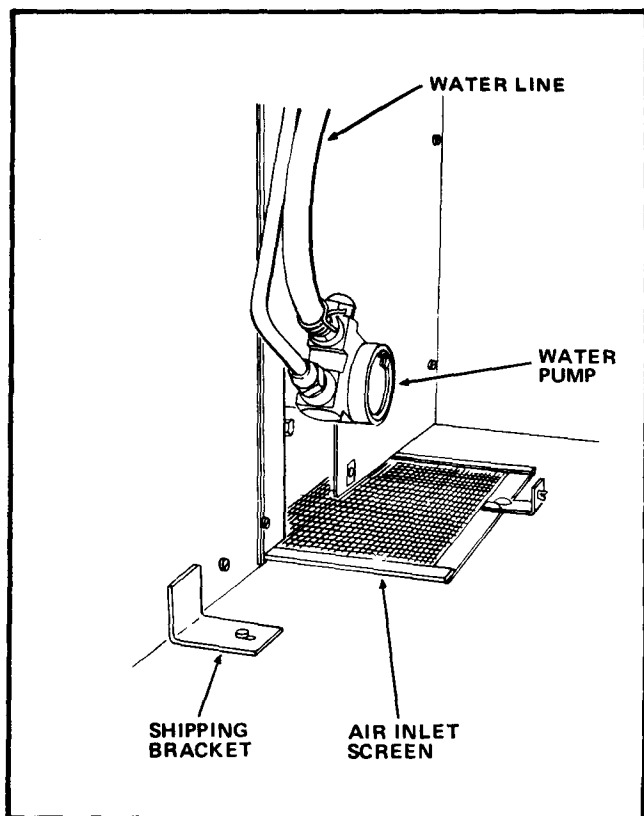

FIGURE 6
20. Disconnect the Water Line at the Water Pump. See Figure 6.
21. Rotate the quarter turn Fastener counter-clockwise on the front of the Air Inlet Screen and slide the Air Inlet Screen out of the bottom of the Refrigeration Compartment. See Figure 6.
Module Final Assembly to the Cabinet floor. See Figure 6.